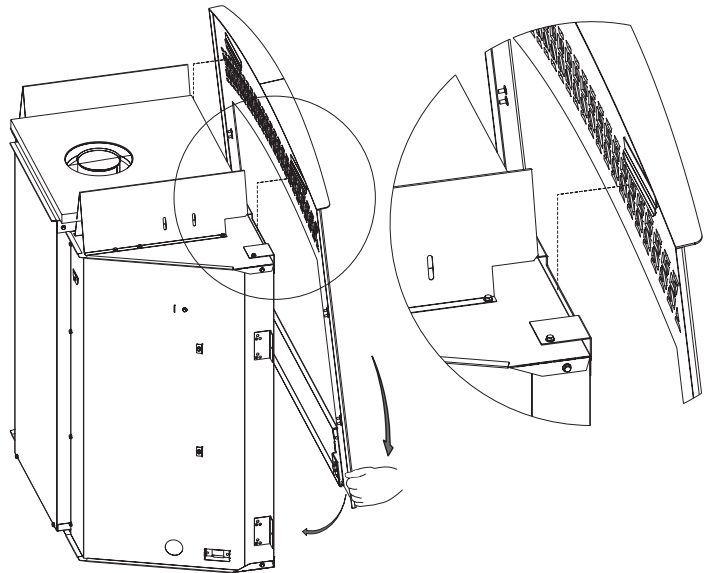

Figure 63
2. Remove decorative front by tilting lower portion forward to release ball catch and lifting front off mounting bracket. See **Figure 63**.